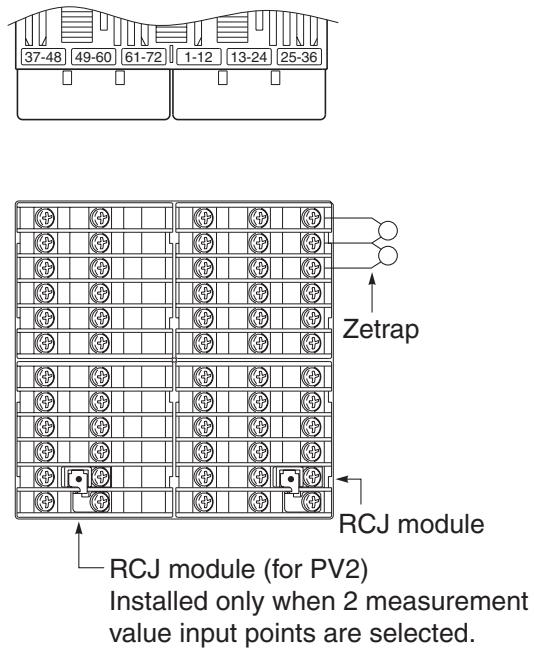

Fig. 5 Attachement position of Zetrap and RCJ module
Attachment position : Please connect between the relay control output connection points. (Refer to Fig. 5.)
- If using a thermocouple input, make sure that an RCJ module is connected as shown in the Fig. 5. (If an RCJ module is not connected, the temperature measurement cannot function.)